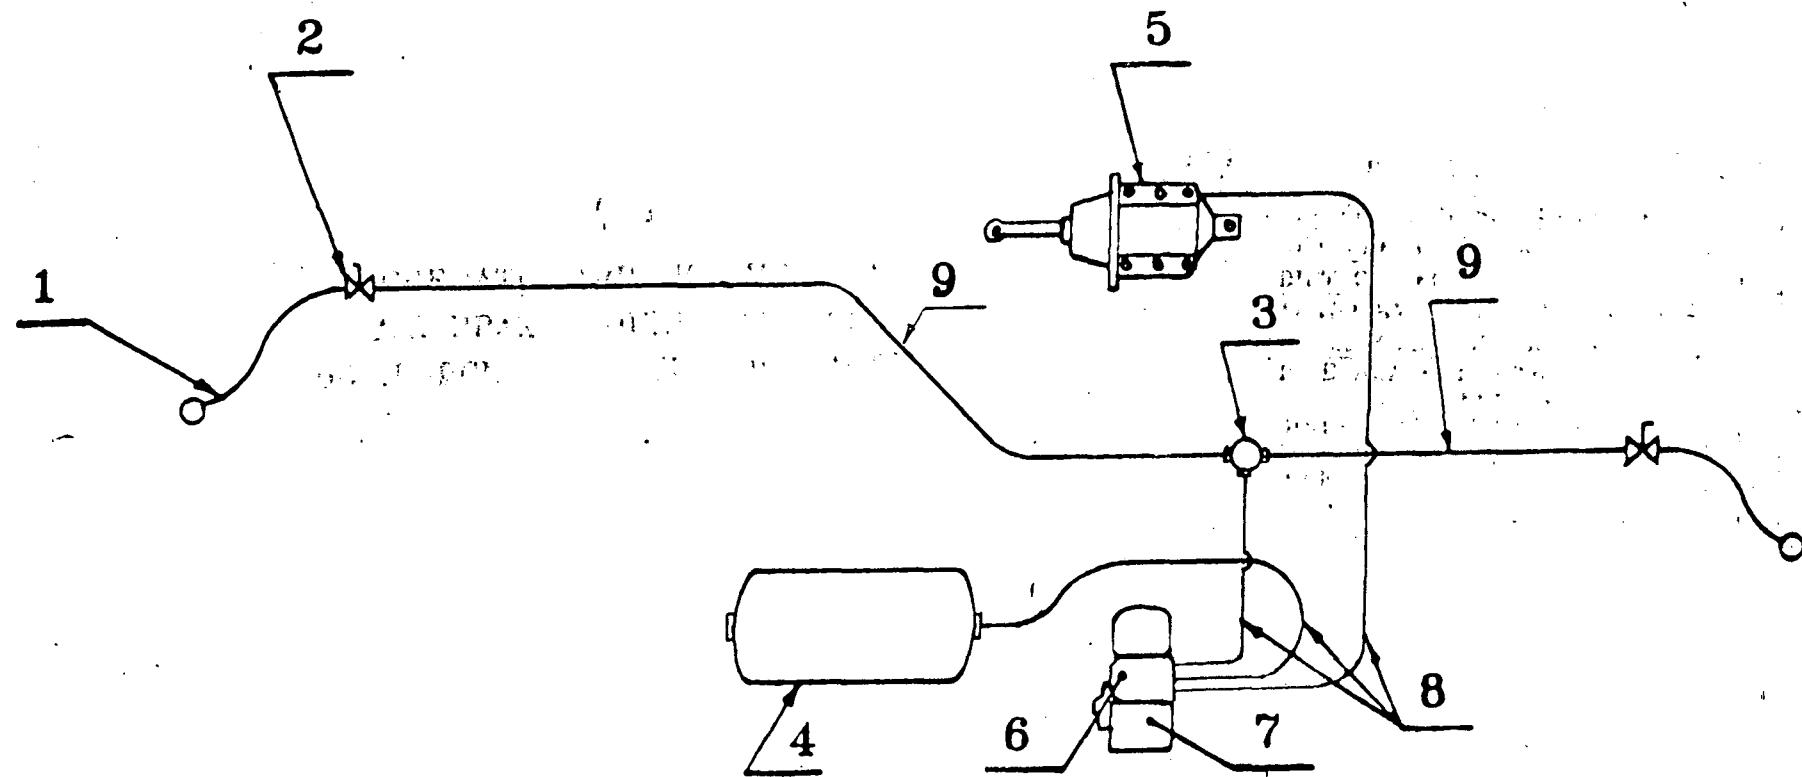

FIG. 1
- 2.1.1 Schematic layout of single pipe graduated release air brake system as provided on above wagons is shown in Fig.1. Brake pipe (9) runs through the length of wagon. Brake pipe on consecutive wagons in a train are coupled to one another by means of hose coupling (1) to form a continuous air passage from the locomotive to the rear end of the train. Brake pipe is charged to 5kg/cm^2 through the compressor of the locomotive.